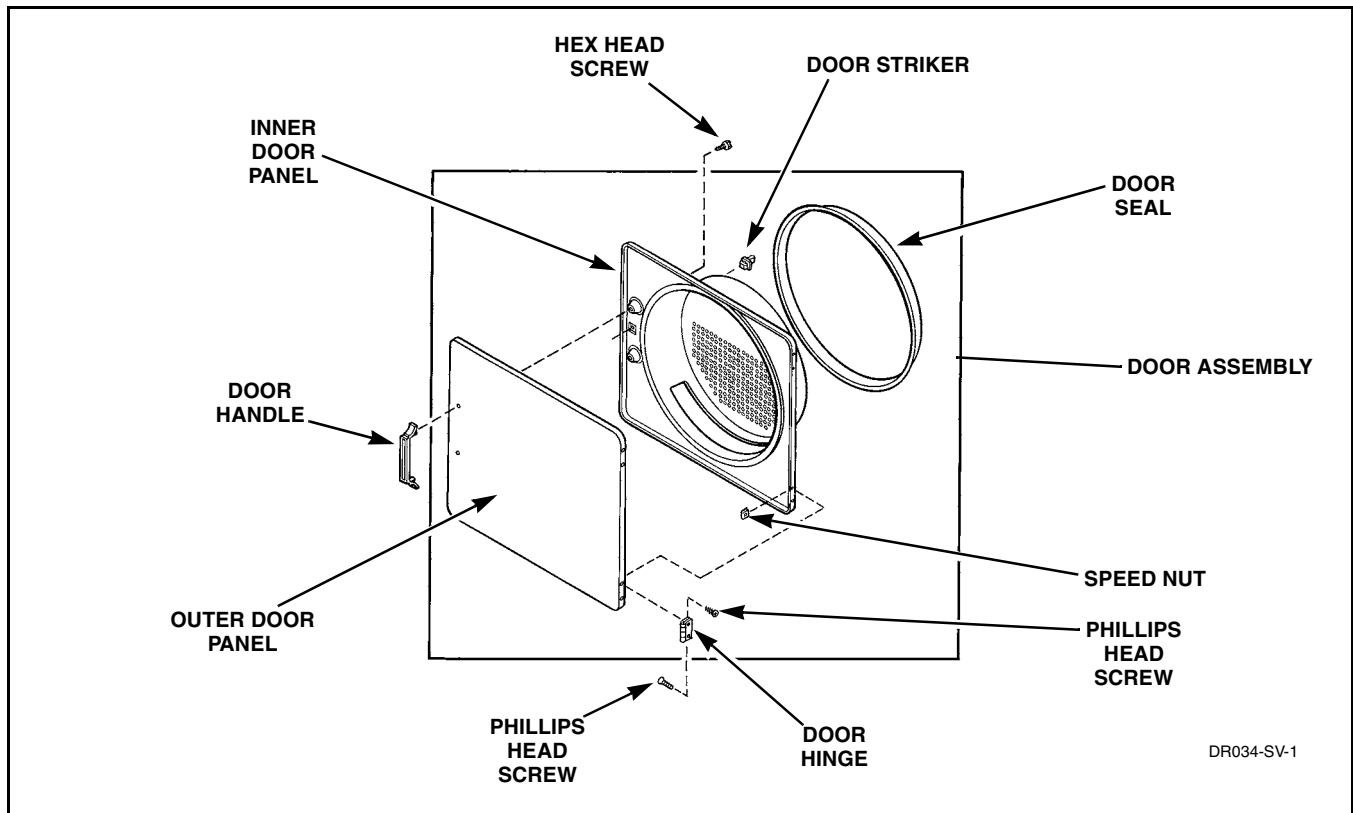

Figure 17
- b. Remove screws holding handle to door and separate panels. Refer to *Figure 17*.
Refer to *Figure 17*